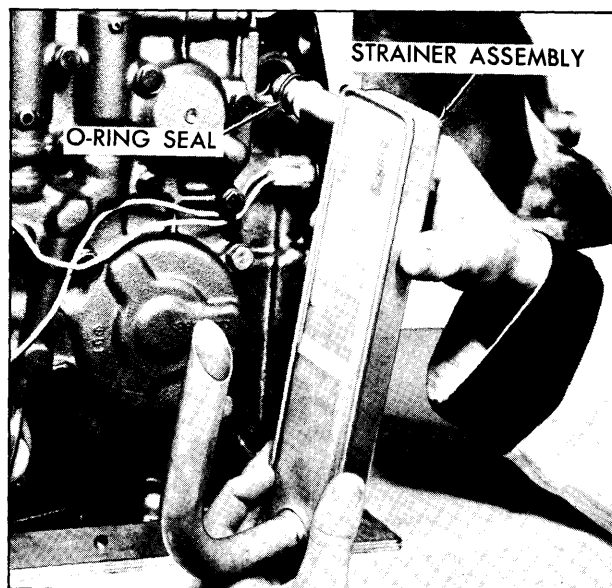

Fig. 7E-33 Removing Oil Strainer
3. Remove oil strainer assembly. (Fig. 7E-33)